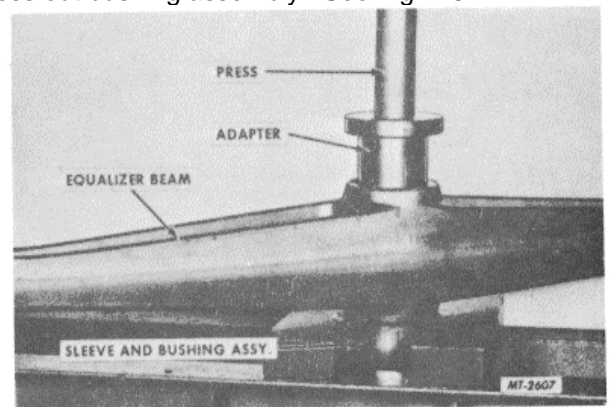

Fig. 10 Removing Equalizer Beam Center Sleeve and Bushing
1. Support beam in press, Using adapter made from appropriate size standard tubing to fit against center sleeve and bushing assembly, press out bushing assembly. See Fig. 10.